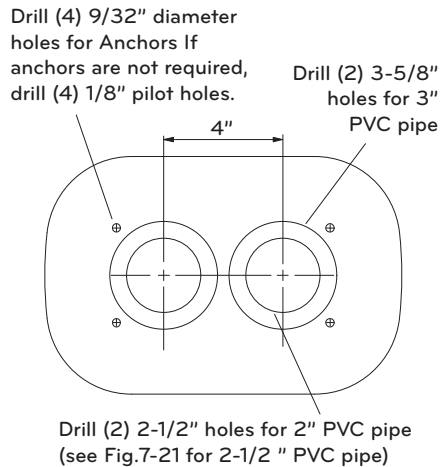

Fig.7-17
- Using the template as a guide, drill two 3-5/8" holes for 3" PVC pipe or two 2-1/2" holes for 2" PVC and 2-1/2" PVC pipe. For 2-1/2" PVC installations transition to 2" PVC and install into flush-mount as shown in Fig.7-21. Do not vary from the template. All dimensions are critical. There must be 4" center line to center line for either 3" pipe or 2" pipe. See Fig.7-17.